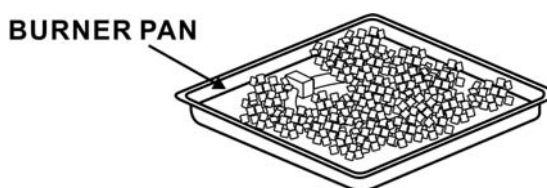

Figure 3
2. Pour ALL the provided media (fire ice or lava rock) into the burner pan. Burner MUST be completely covered to ensure appliance function properly and safely. Remove any lava rocks or fire ice on top of the ignition well. See Figure 3.